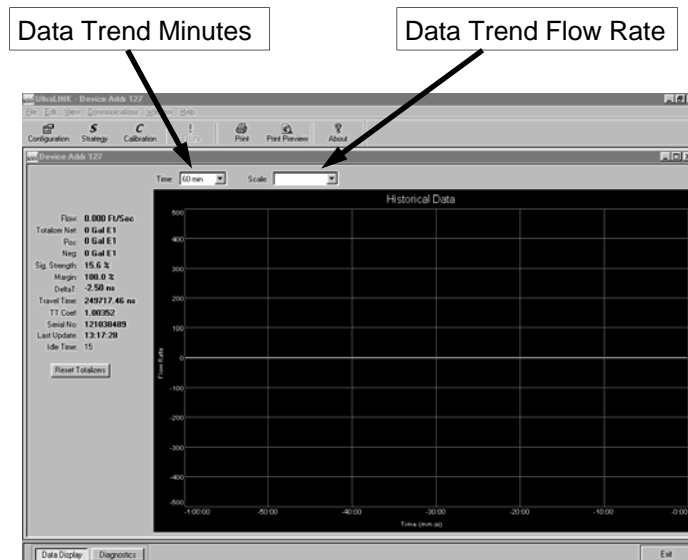

Figure 12
3. The opening screen, shown in **Figure 12**, is called the Data Screen. It contains a large data trend chart that can be adjusted for both the X(time) and Y(flow rate) axis. This screen also contains real-time information regarding flow rate, totalizer accumulations, system signal strength and diagnostic data. The indicator in the lower right-hand corner will indicate communications status. If a red **ERROR** is indicated, click on the Communications button on the top bar. Click on Initialize. Choose the appropriate COM port and RS232. Proper communications are established when a green **OK** is indicated in the lower right-hand corner of the PC display.
- **Vol. Correction Sig. Str. Limit** is a feature used to provide volumetric compensation for gas bubbles that can be present in liquid systems. The TFXL measures the velocity of the liquid in the pipe and converts that velocity to volume by multiplying the velocity by the cross-sectional area of the pipe. If there are gas bubbles within the liquid, the gas is displacing some of the liquid and errors can occur. When Vol. Correction Sig. Str. Limit is set to zero, the compensation function is not operational. To use the feature, enter the maximum Signal Strength observed on the flow meter after installation. The maximum signal strength should occur with the pipe completely full of liquid and the flow stopped. Signal Strength can be observed on the UltraLink Data Screen. See **Figure 12**.